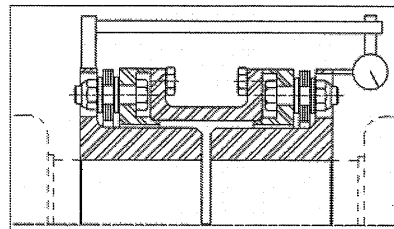

Figure 2
- D. **Angular Alignment.** Rigidly mount a dial indicator on one hub or shaft, reading the face of the other hub flange, as shown in Figure 2. Rotate both shafts together making sure the shaft axial spacing remains constant. Adjust the equipment by shimming and/or moving so that the indicator reading is within .001 inch per inch of coupling flange diameter. See Chart (A).